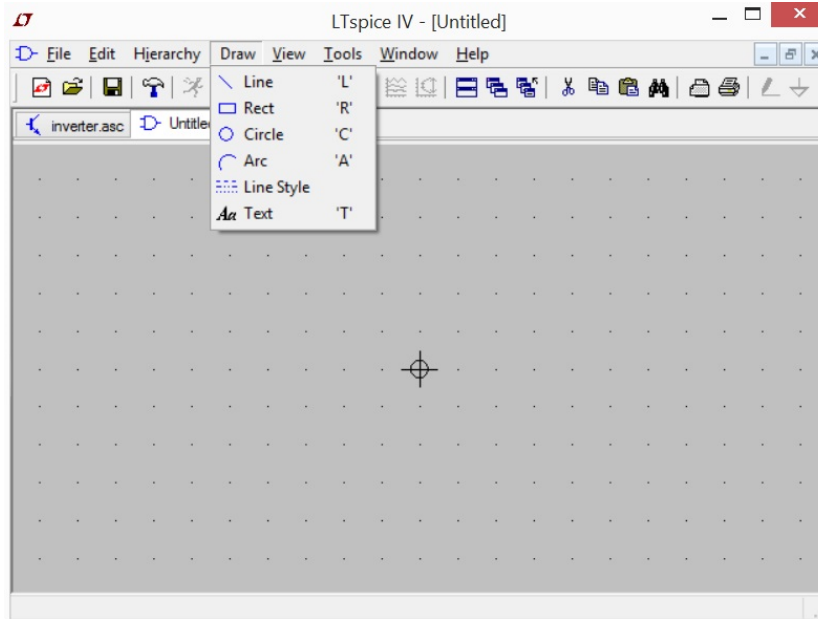

Figure 10. Symbol creation window
- Draw the symbol with lines, rectangles, circles, and etc from the pulldown menu – **Draw** as shown in Figure 10.